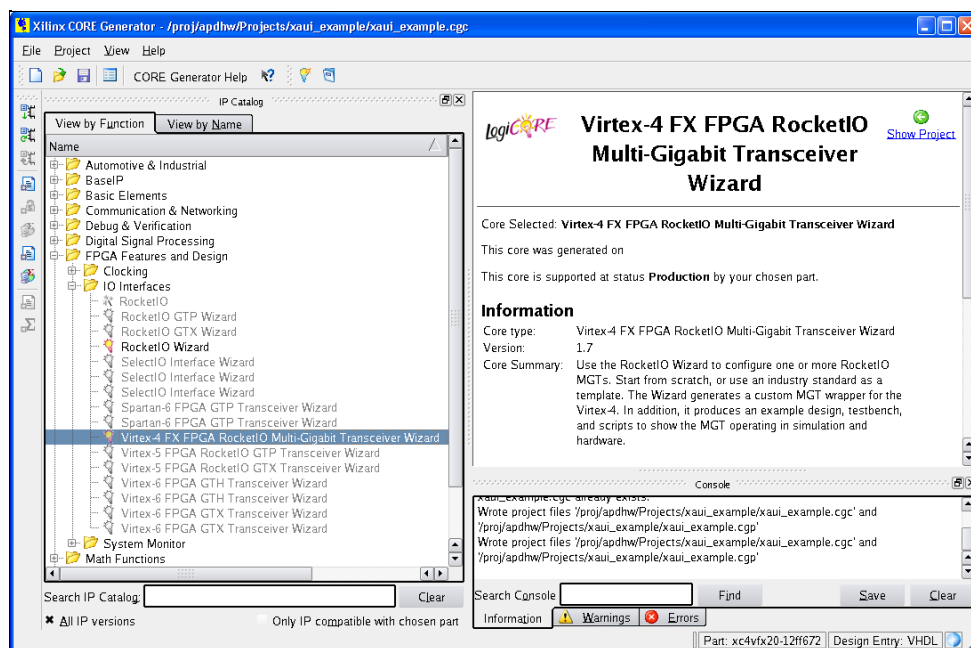

Figure 3-4: Locating the Virtex-4 FX FPGA RocketIO MGT Wizard
1. Locate the Virtex-4 FX FPGA RocketIO MGT Wizard in the taxonomy tree under /FPGA Features & Design/IO Interfaces. (See Figure 3-4.)